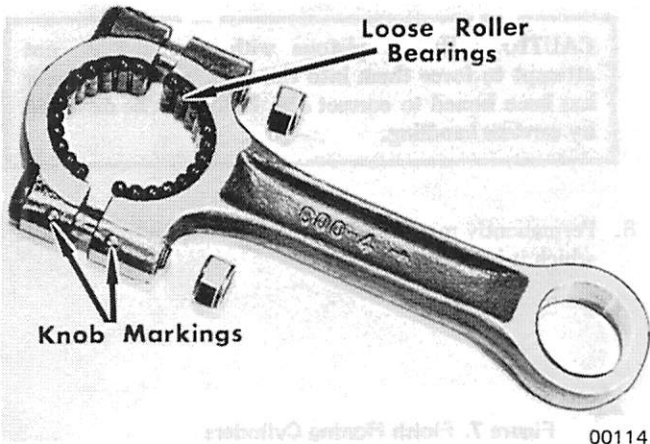

Figure 2. Knob Markings
5. Prepare connecting rods, opening matched assemblies (one at a time) by removing cap. Watch knob markings on cap and rod for reassembly. (Figure 2)
8. Place connecting rod cap so that knob markings match connecting rod. (Figure 2)